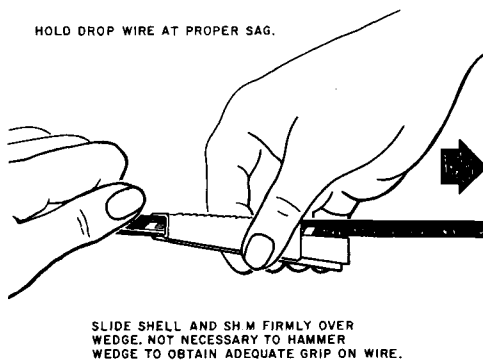

Fig. 6 — Completing Installation of Clamp on Drop Wire
2.06 Hold the drop wire at proper sag with the one hand while sliding the shell and shim firmly over the wedge as shown in Fig. 6. Tapping the exposed end of the wedge with pliers is not necessary to obtain adequate holding power.